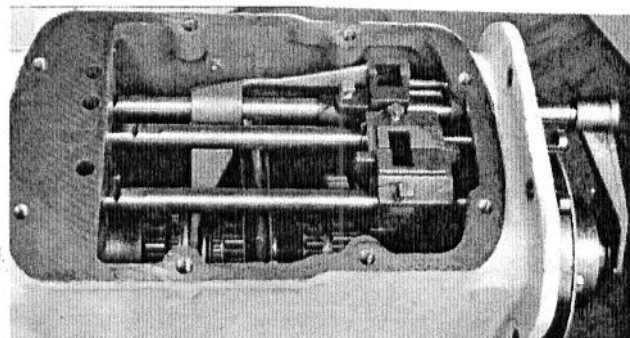
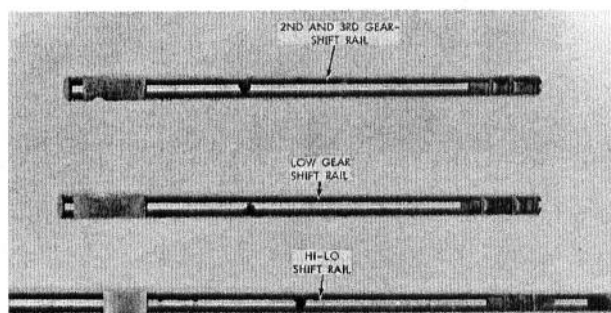

Fig. 25 - Shift Forks and Rails Properly Installed
Fig. 26 - Identification of Shift Rails
- e. Slide the shift rails into their respective forks and secure with setscrews and lock wire. Install retainer plate at rear of shift rails. Fig. 25 shows the shift forks and rails correctly installed. Refer to Fig. 26 for identification of shift rails.
- d. Slide the shift rails into their respective forks and secure with setscrews and lock wire. Install retainer plate at rear of shift rails. Refer to Fig. 26 for identification of shift rails.